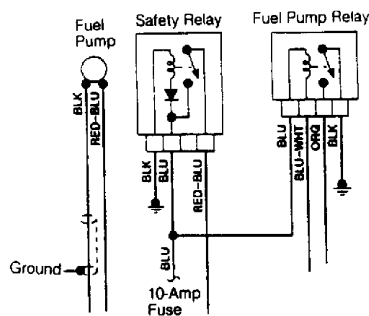

Fig. 11: Testing Maxima Fuel Pump & Safety Relays
1) Turn ignition on. Ensure battery voltage exists at Blue wire of fuel pump relay. See Fig. 11. If battery voltage is not present at Blue wire, check for a blown 10-amp power fuse or an open circuit between fuse and relay.
1) Turn ignition on. Using a voltmeter, check for battery voltage at Blue wire of safety relay. See Fig. 11. If voltage is not present, check for blown 10-amp fuse or open circuit between fuse and relay.